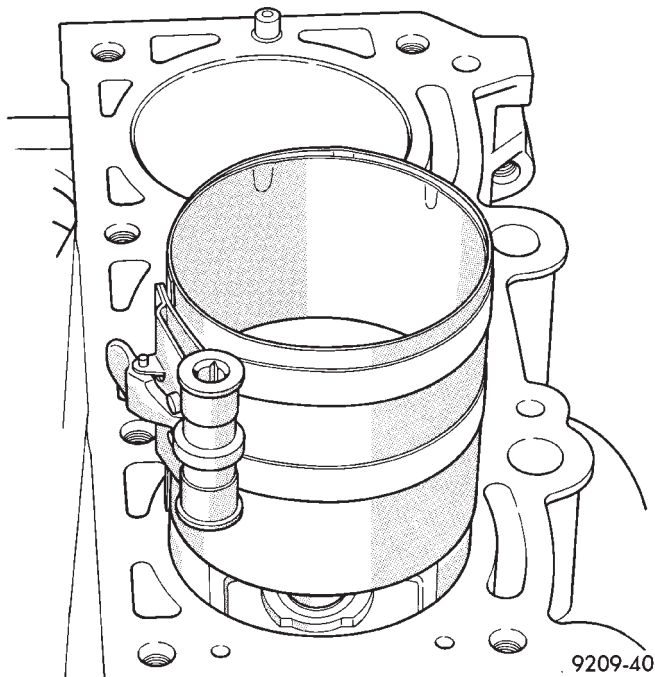

Fig. 14 Installing Piston
(1) Before installing pistons, and connecting rod assemblies into the bore, be sure that compression ring gaps are staggered so that neither is in line with oil ring gap.
(2) Before installing the ring compressor, make sure the oil ring expander ends are butted and the rail gaps located as shown in (Fig. 14).